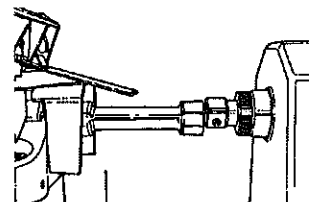
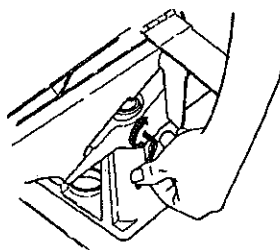
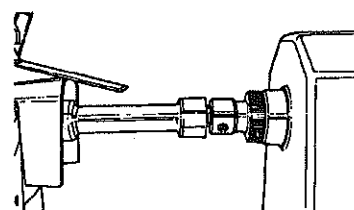

Fig.C-9
Fig.C-11
Fig.C-10
13. Fig.C-9 shows typical vertical misalignment. After you have horizontally aligned the Jointer to the drive shaft hub (31), lift the Jointer until the coupler vertically aligns with the drive shaft hub, as in Fig. C-10. When they are vertically aligned, tighten the Jointer tube setscrews. See Fig.C-11. Recheck the vertical alignment. If it is off, re-do it.